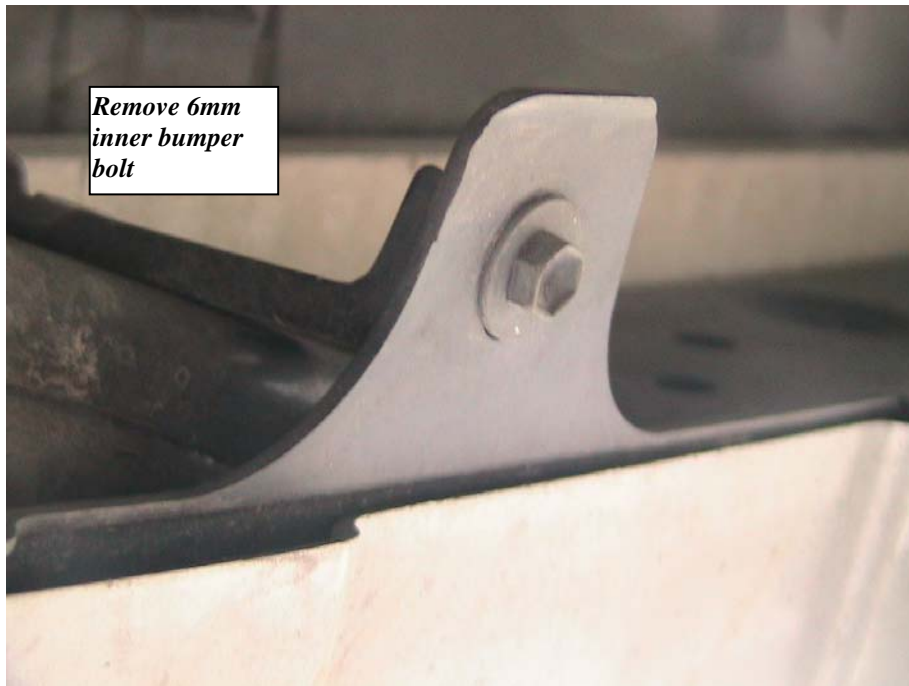

Figure 4 Remove inner bottom bumper bolts. LH shown, RH similar
3. Remove 4 inner and outer 6mm bottom bumper bolts. **See Figure 4 and 5**